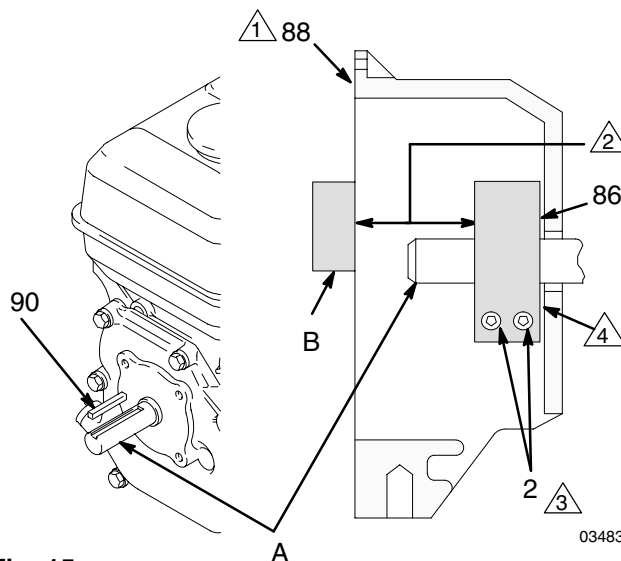

Fig. 15
1. Fig. 15. Loosen two screws (2) on collar (86),
2. Push screwdriver into slot in collar (86) and remove collar.
1. Fig. 15. Install engine shaft key (90).
2. Tap collar (86) on engine shaft (A) with plastic mallet.
3. Press collar (86) onto engine shaft (A). Maintain dimension shown note 2 in Fig. 15. Chamfer must face engine.